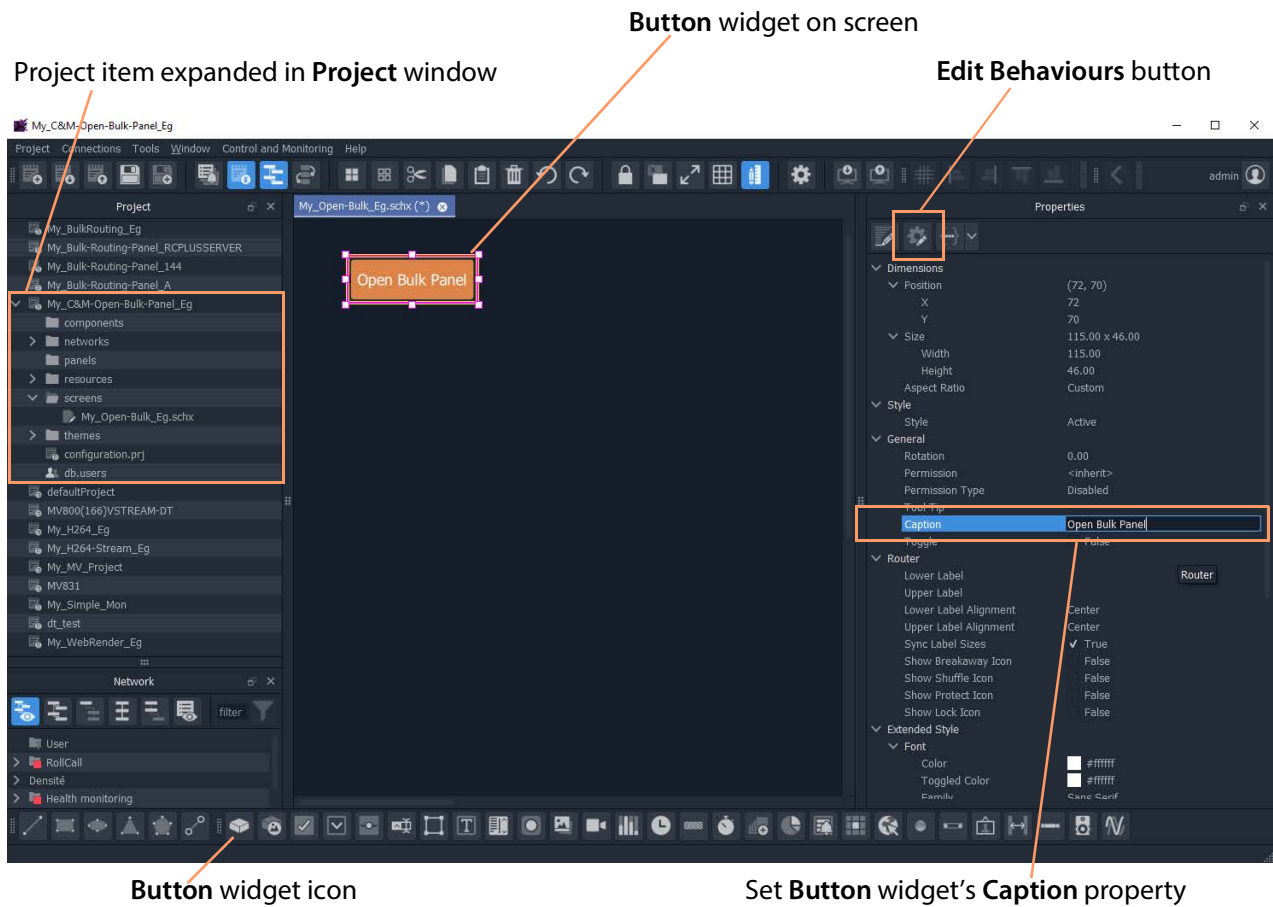

Fig. 12-91: C&M Project Screen with Button Widget
- 5 Edit the **Button** widget's **Caption** property. See Figure 12-91.